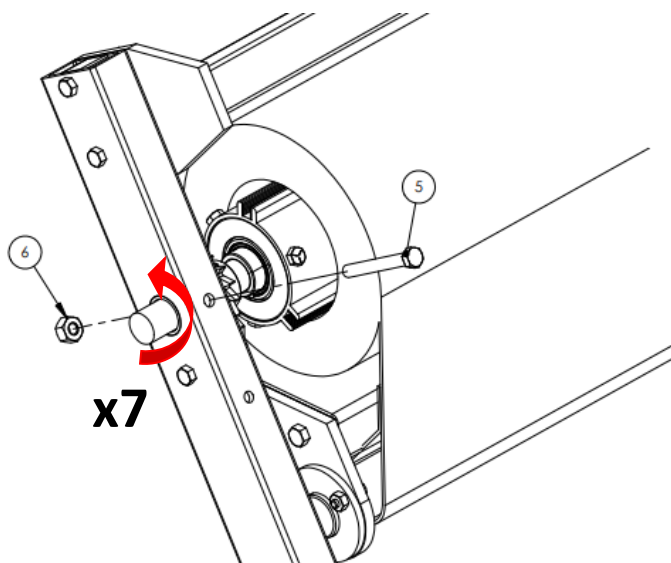

Figure 2.13: Pre-Loading Roller Tube
Using the provided handle, tighten set screw onto milled section of shaft. Remove the temporarily placed 3/8" shaft bolt (5) and nut (6) and rotate the shaft 7 counterclockwise turns. Replace and tighten the 3/8" shaft bolt (5) and nut (6). See *Figure 2.13*.